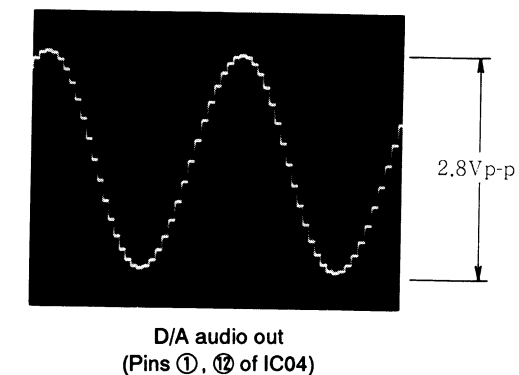

Fig. 10.
At IC04, the input DA data, after passing through integrator and sample-hold circuit, is converted into analog signal by a 14-bit 2ch D/A converter; and is then output through Pin ① Lch (Fig. 10.), Pin ② Rch (Fig. 10.).